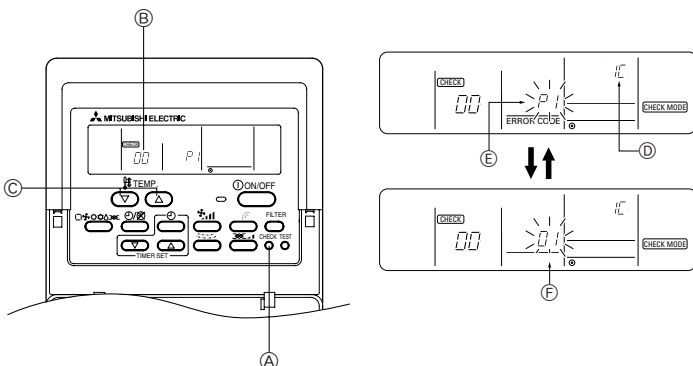

Fig. 7-2
7.3.1. Wired remote controller (Fig. 7-2)
- ① Turn on the power.
- ② Press the [CHECK] button twice.
- ③ Set refrigerant address with [TEMP] button if system control is used.
- ④ Press the [ON/OFF] button to stop the self-check.